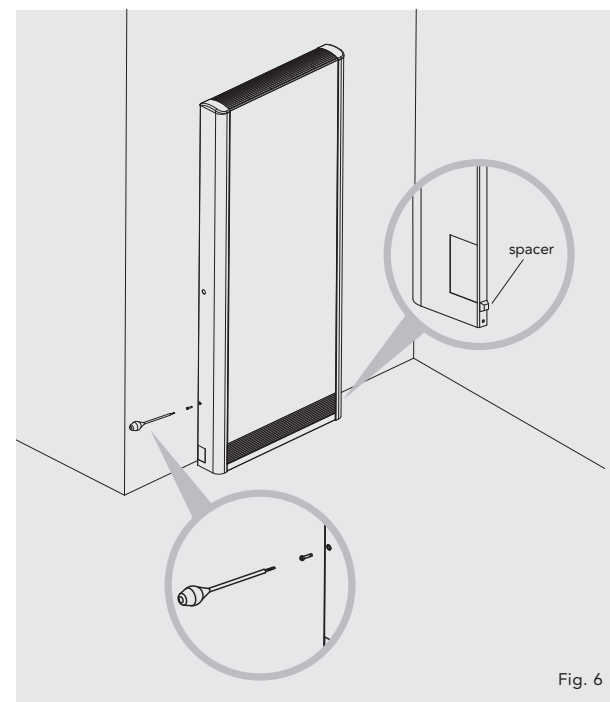

Fig. 6
- Fit the two self-adhesive spacers to each back return of the LST casing below the pipework knock-outs as shown (see Fig. 6).
- Secure the LST casing to the bottom bracket plate via the screw holes at each end (see Fig. 6).
- Remove both security screws (see Fig. 6).